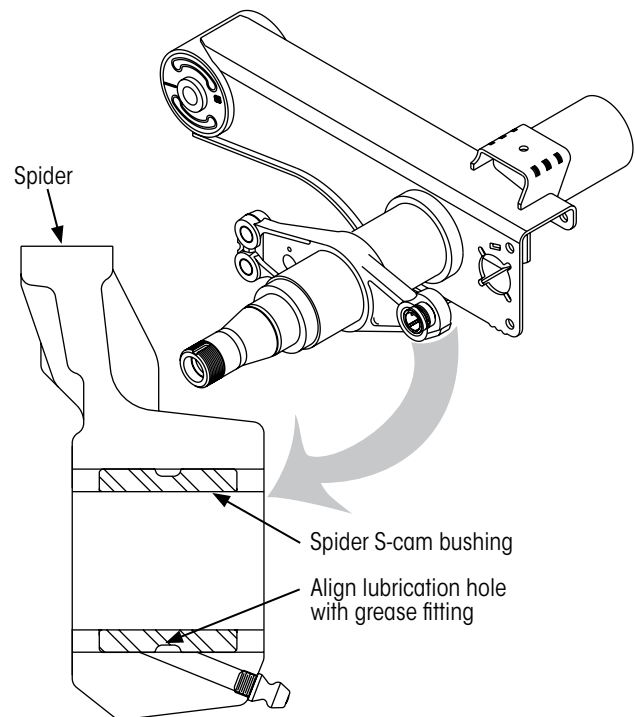

Figure 8: Spider S-cam bushing installation details
7. **Orient** the new bushing so its lubrication hole aligns with the grease fitting in the spider (Figure 8).